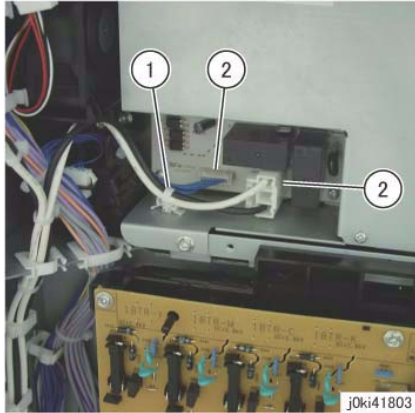

Figure 4 Disconnect the connectors
5. Disconnect the connector of the IH Driver PWB. (Figure 4)